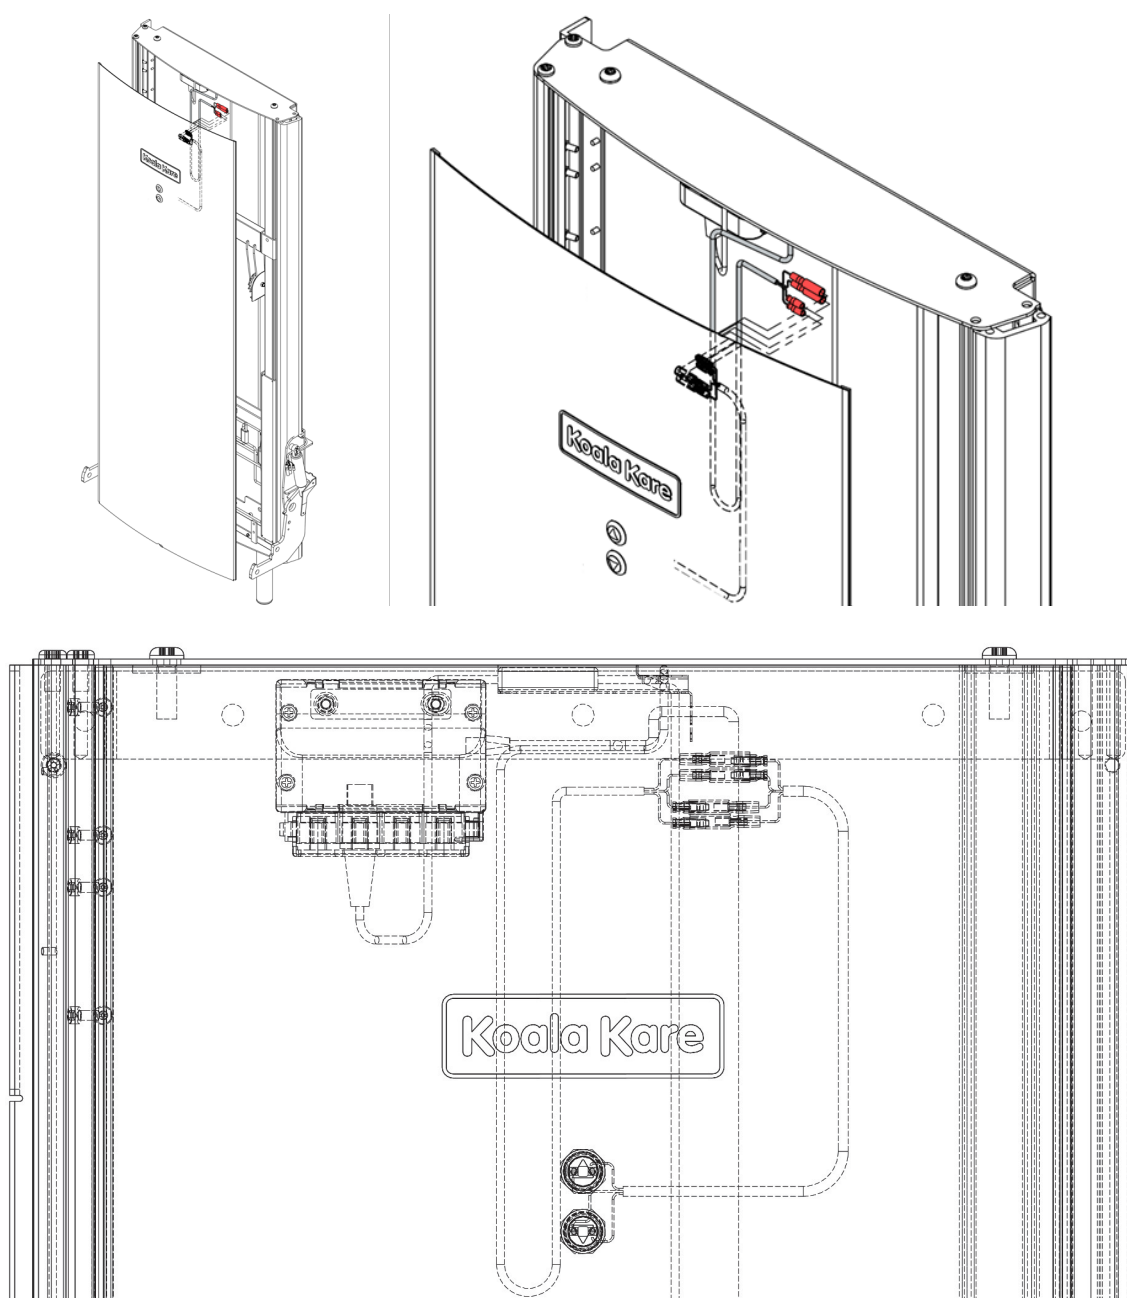

Fig 12.6a
- Connect the four matching-colored cables from the front cover to the corresponding centrally hanging cables coming from the SBU as shown in Fig 12.6a.